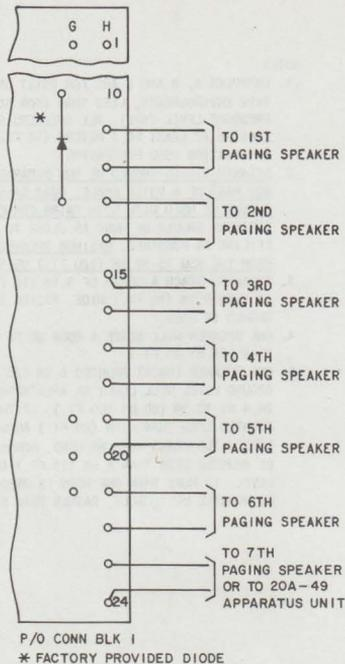

Fig. 36—Connections for Paging Speakers (or 20A-49 Apparatus Unit)
- (2) If background music is provided, install the 33A voice coupler according to paragraph 4.38(b).
- (3) Connect paging speakers as shown in Fig. 36. Speaker wiring should be run separately and not a part of a voice cable. Quad inside wire should be used with both pairs connected. (Where it may become necessary to "stack" wires on the connecting block terminals, use 183B2 adapters.) Speakers connected in this manner can be located a maximum of 320 feet from the KSU. Indoor speakers should be hung as close to the ceiling as possible.